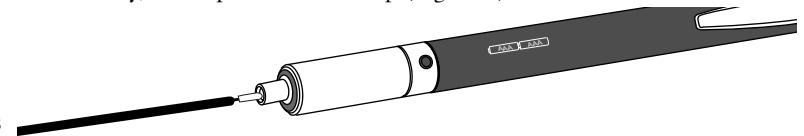

Figure 2
- b) Insert two AAA alkaline batteries as shown in Figure 2.